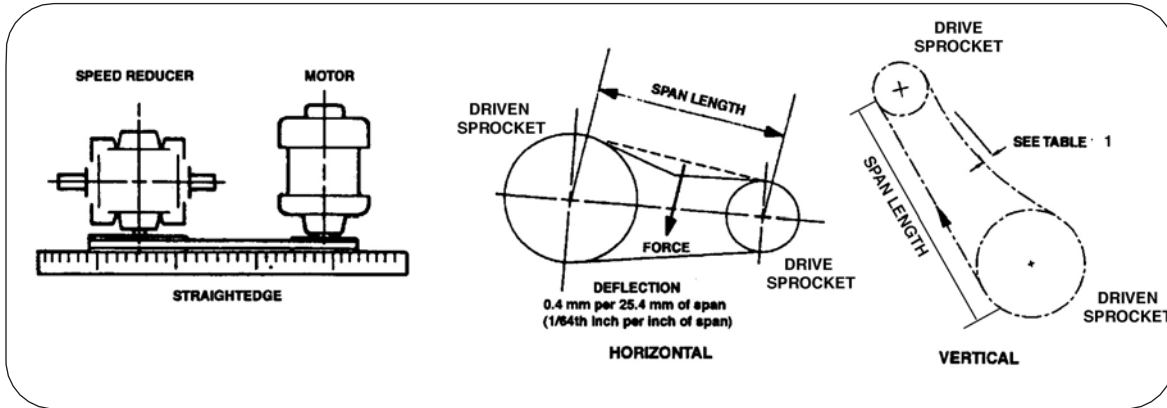

Figure 3. Reducer/Motor Alignment and Tension Adjustment
1. Check sprocket alignment using a straight edge or taut cord stretched across the faces of the drive sprocket and the driven sprocket (Figure 3). The tolerance is ± 0.5 degrees or $1/8$ " per foot (3.5 mm per 0.3 m).
3. Check roller chain tension. Deflection of the span should be as shown in Figure 3 and Table 1.
1. Check the sheave alignment between the motor and speed reducer by placing a straight edge or taut cord across the face of the sheave faces (Figure 3). Inside and outside sheave diameters should be touching the straight edge at all four points as shown in the illustration. Alignment of the sheaves should be within $+ 0.5$ degrees or $1/8$ " per foot (3mm per 0.3 m).
- Measure the span length as shown in Figure 3.
- Check belt tension by pressing firmly on the individual belt. A belt that can be depressed an amount equal to $1/64$ th inch per inch of span (0.4 mm per 25 mm of span) is properly tensioned (Figure 3).
NOTE: The ratchet slip clutch is preset at Jorgensen Conveyors to 1-5/8" (41.3 mm (Figure 3). Do not compress the spring to anything less than 1-1/2" (8.1 mm) because this would disable the clutch.